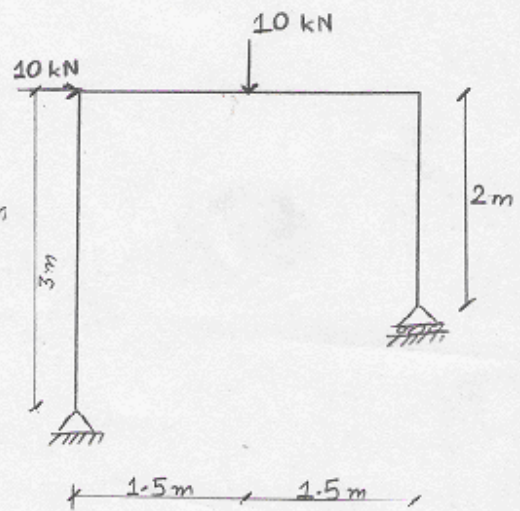

Fig. 6 (Q.5.A.2)
2. Analyze the structure shown in **Fig.6**. Draw the free body diagram, Shear force diagram, bending moment diagram and axial force diagram. **05**